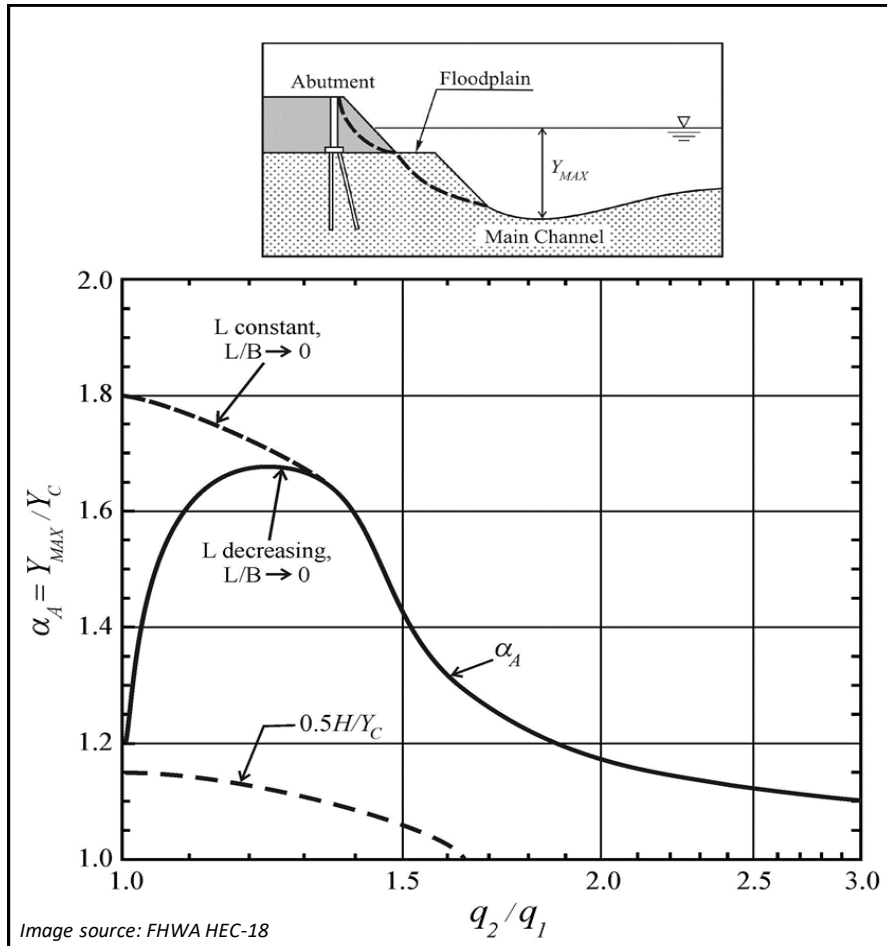

Figure 8.9. Scour amplification factor for spill-through abutments and *live-bed conditions* (Scour Condition A)
- Scour Condition A, spill-through abutments (Figure 8.9)